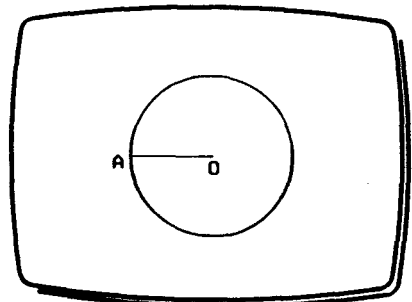

Fig 2
- 3 Draw a circle of radius 10 units, centred on the grid (Fig 2).
- 4 Draw the radial (OA) in Fig 2.